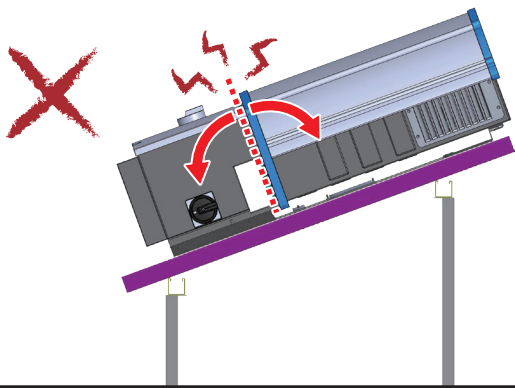

Figure 3-12: Stress/torque should be prevented when installing the inverter
2. When installing the inverter on the rack system, use care not to apply excessive stress/torque as shown in **Figure 3-12**. It's known that for most tilt installations, a rigid conduit body (e.g./ "LB") will be applied to the AC side. Installer must exercise care when installing, as overstressing the chassis may open a path for water intrusion through the contact surface between the inverter module and the wiring box.